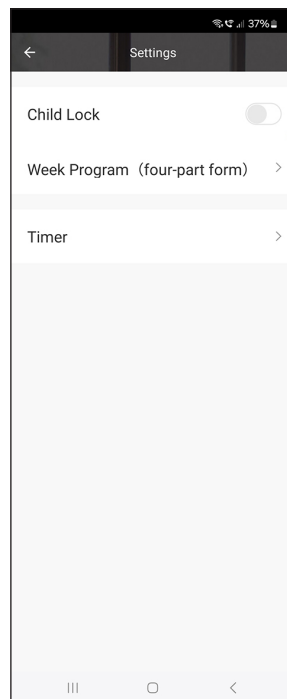

fig. 12
- Press 'Week Program' (four-part form) (see fig. 12)